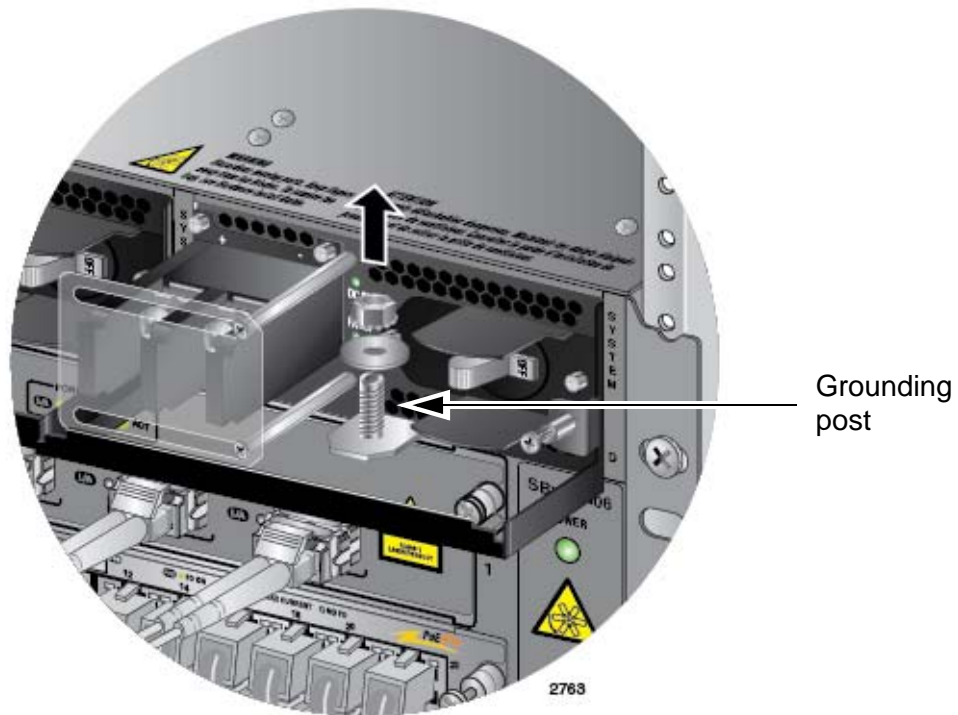

Figure 129. Removing the Nut and Washer from the Grounding Post
3. Use an 8 mm wrench to remove the grounding post nut and washer, shown in Figure 129, from the power supply.
2. Use an 8 mm wrench to remove the grounding post nut and washer, shown in Figure 129 on page 192, from the grounding post on the power supply.